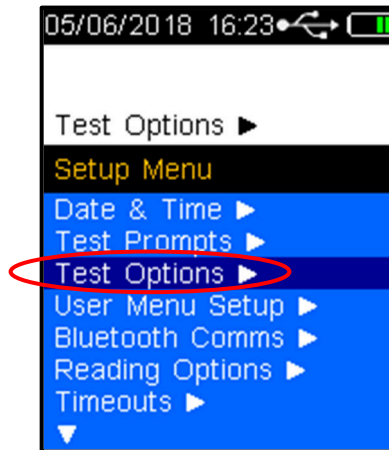

Figure 22 - Test Options Menu
- Press the Down button until *Test Options* is highlighted (Refer to Figure 22).